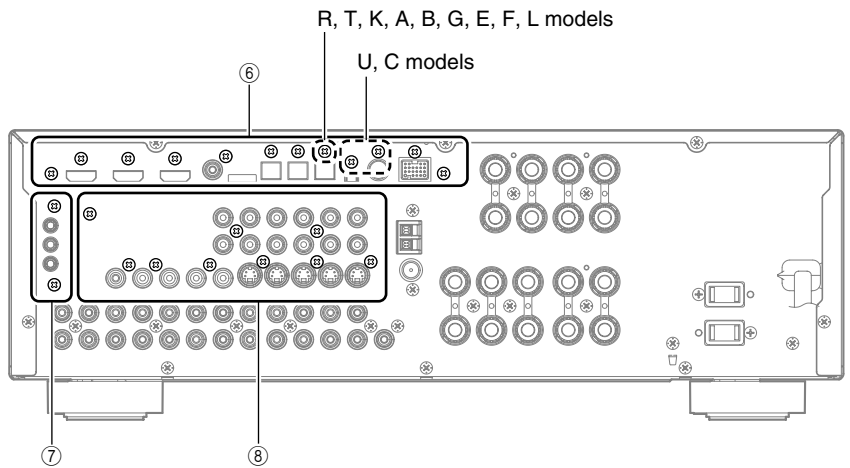

Fig. 3
- b. Remove 11 screws (U, C models) / 10 screws (R, T, K, A, B, G, E, F, L models) (⑥). (Fig. 3)
4. Removal of VIDEO (1), (2) and (6) P.C.B.s
- a. Remove 2 screws (⑦). (Fig. 3)
- c. Remove 9 screws (⑧). (Fig. 3)